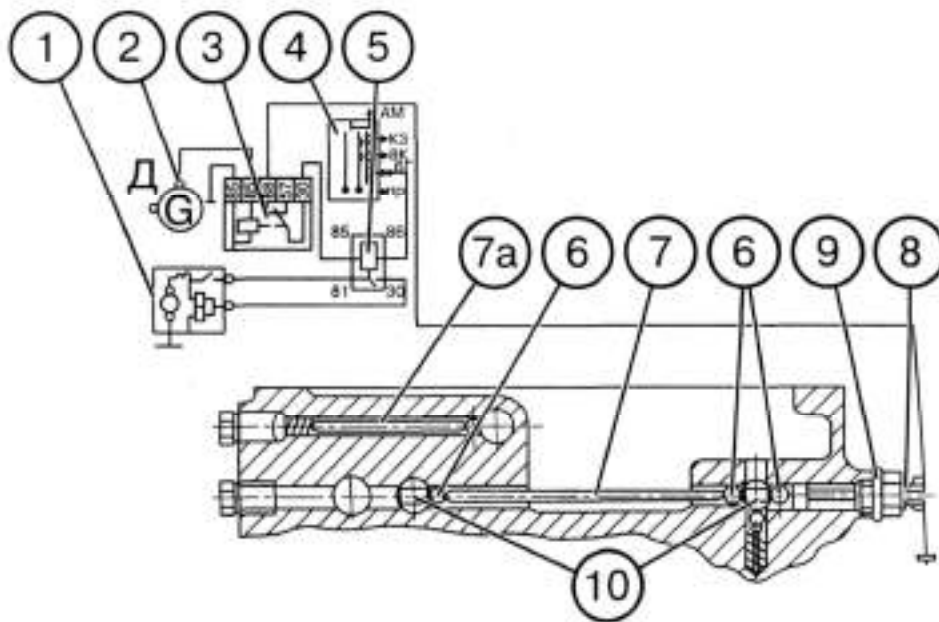

Fig. E -15.7. Diagram of interlocking the engine starting:
As a precautionary measure against the engine starting when the range is switched on, the tractor is equipped with a special interlock device (Fig. E-15.7). The interlock consists of a switch (8) located in the transmission gearbox casing on the left side, balls (6) and pins (7, 7a).